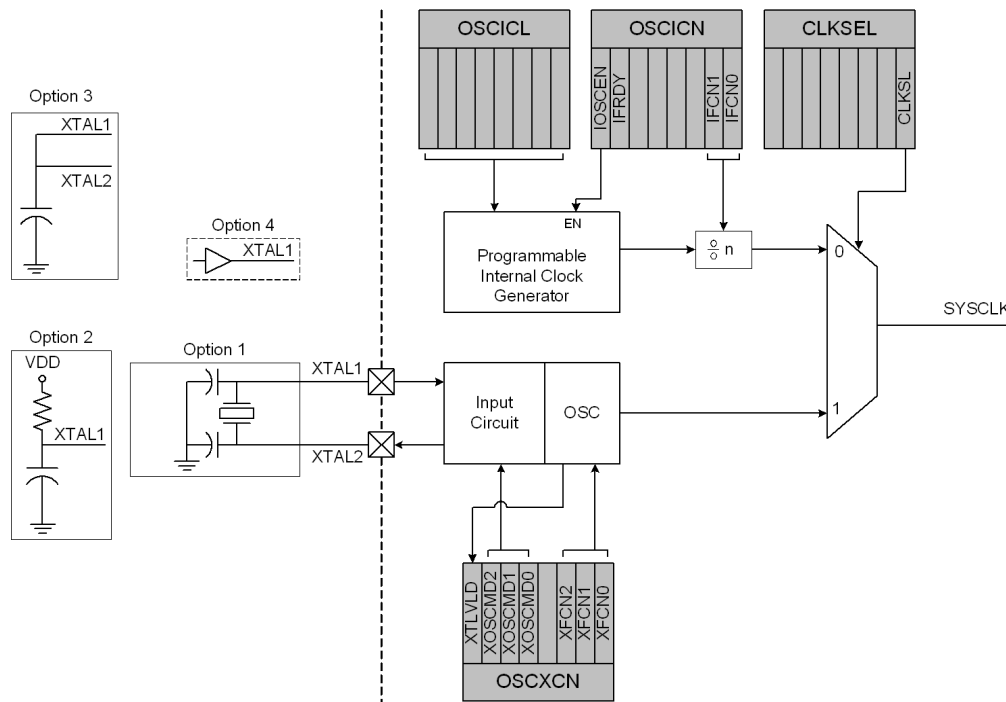

**Figure 14.1. Oscillator Diagram**
The external oscillator circuit may drive an external crystal, ceramic resonator, capacitor, or RC network. A CMOS clock may also provide a clock input. For a crystal or ceramic resonator configuration, the crystal/resonator must be wired across the XTAL1 and XTAL2 pins as shown in Option 1 of Figure 14.1. In RC, capacitor, or CMOS clock configuration, the clock source should be wired to the XTAL2 and/or XTAL1 pin(s) as shown in Option 2, 3, or 4 of Figure 14.1. The type of external oscillator must be selected in the OSCXCN register, and the frequency control bits (XFCN) must be selected appropriately (see SFR Definition 14.4).
**CRYSTAL MODE** (Circuit from Figure 14.1, Option 1; XOSCND = 11x)
**RC MODE** (Circuit from Figure 14.1, Option 2; XOSCND = 10x)
**C MODE** (Circuit from Figure 14.1, Option 3; XOSCND = 10x)